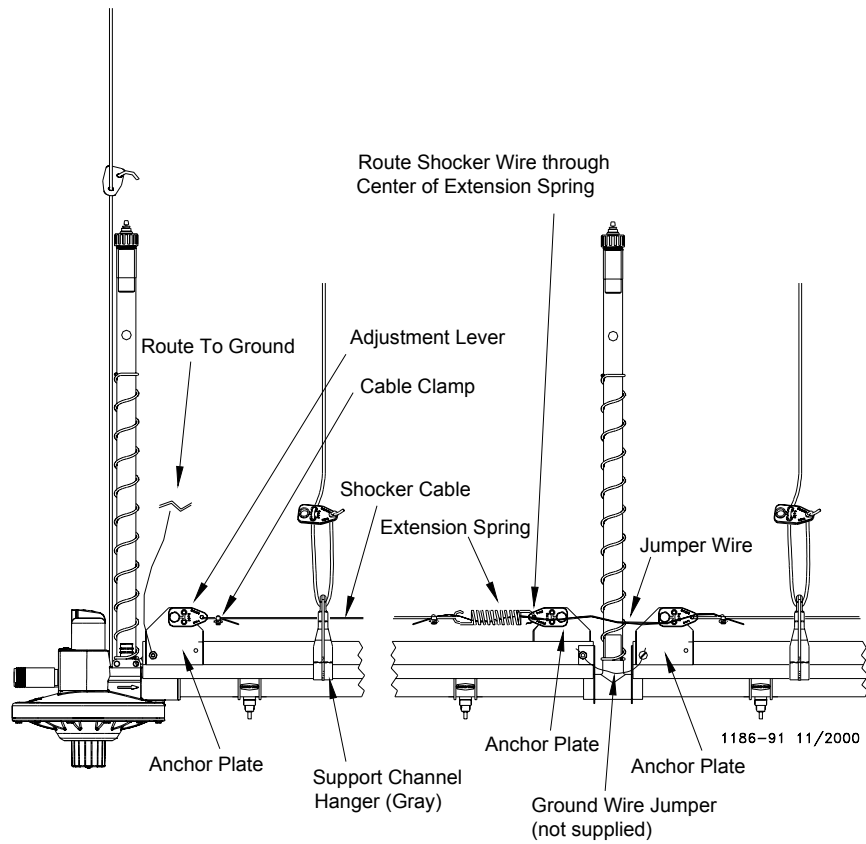

Figure 19. Anti-Roost Components
1. Make certain that an Anchor Plate with Adjustment Leveler is installed at the beginning and end of each anti-roost line. See **Figure 19**.
Note: Make sure that the Support Channel is attached to ground (to insure proper operation of the Poultry Trainer). See **Figure 19**.
It will be necessary to install a jumper wire at Stand Tube, Inlet Assemblies, etc., to insure the ground circuit. See **Figure 19**.